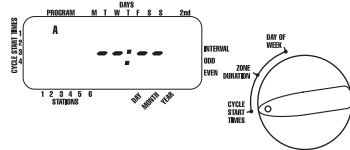

FIGURE 4: LCD Display with Start Time
- The way you set the cycle start time is the same for both programs. Turn the rotary dial to the **CYCLE START TIMES** position in the program that you want to set. The display will show an A or B depending on which program you have selected. The display will show -- and a blinking cursor in **CYCLE START 1** location [See Figure 4].